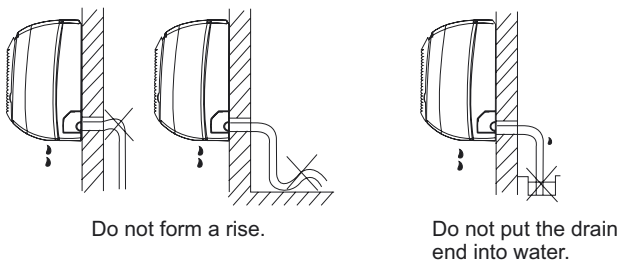

Fig. 8 – Proper Drain Hose Installation
6. Connect the drain line. The drain line must not have a trap anywhere in its length, must pitch downwards, and must be insulated up to the outside wall. See Fig. 8.